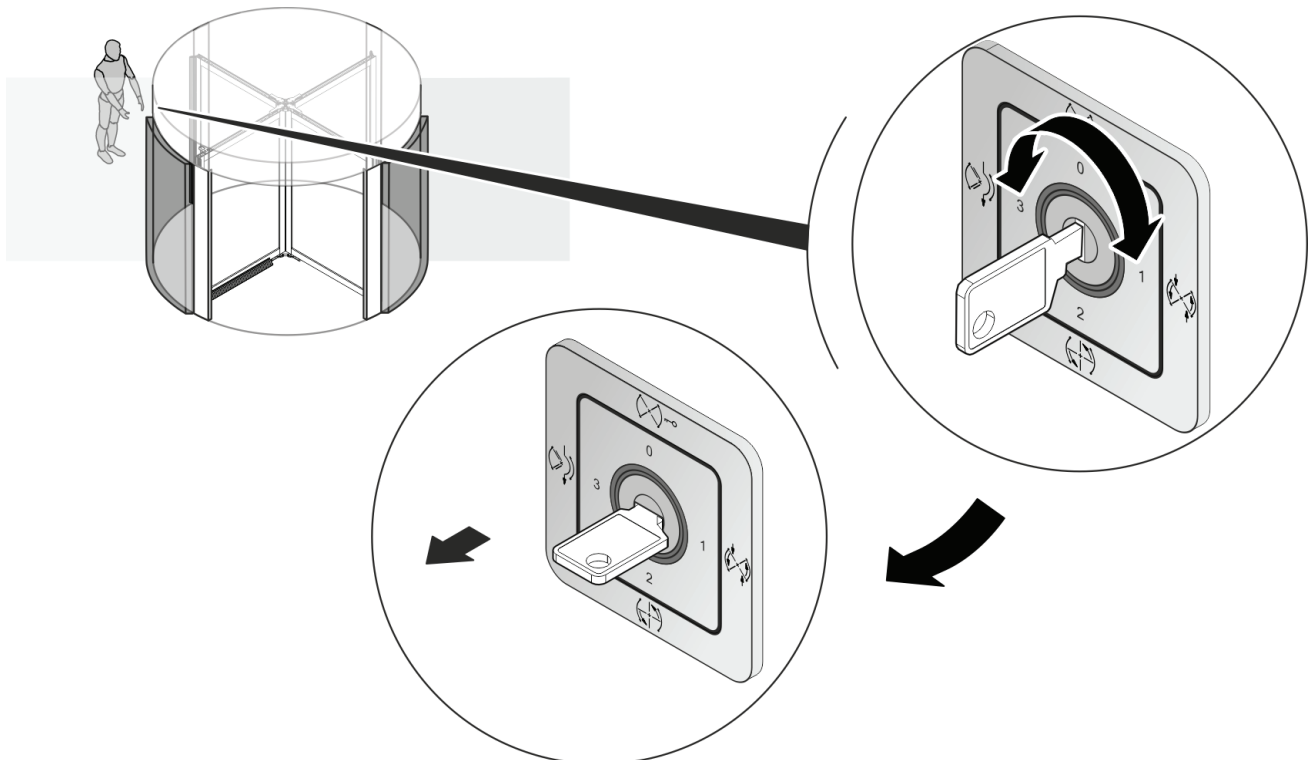

Fig. 9 Select the program and pull the key
1. Switch off the revolving door with the program switch (Fig. 9).